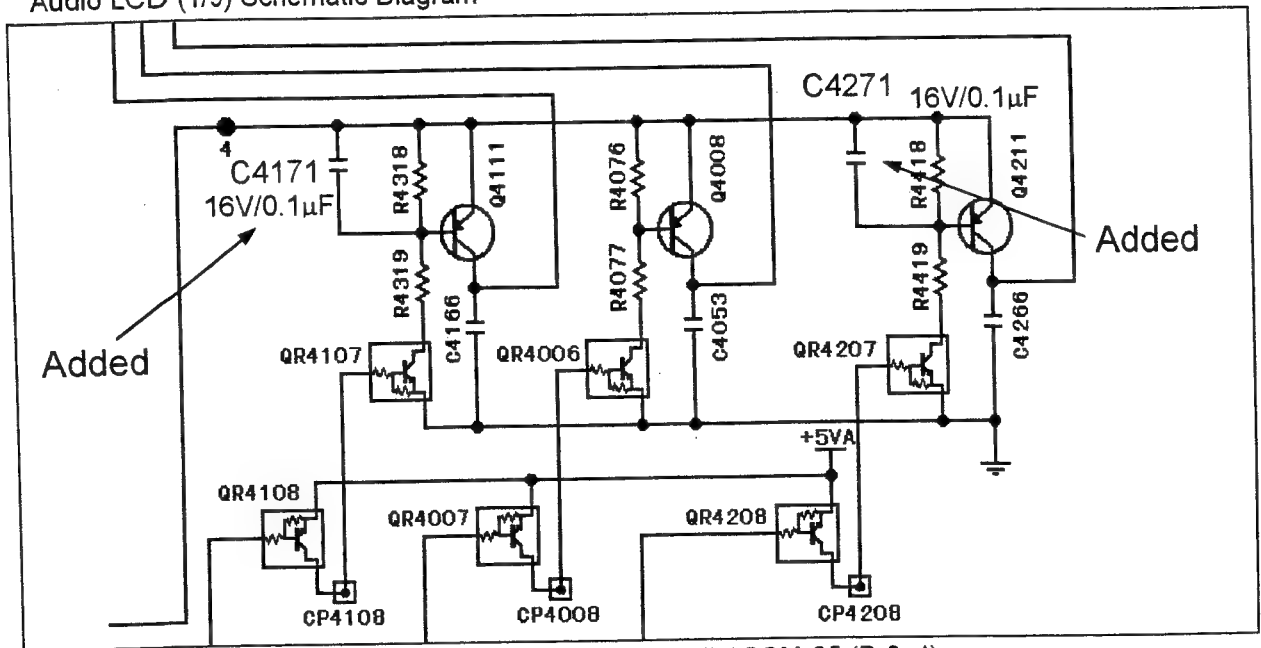

Fig. 1 Page SCM-76 (B-3-4) / SCM-85 (B-3-4)
- 1). Capacitor C4171 (16V/0.1 μ F) is put on the resistor R4318 and then soldered them on the foil side as shown in figures 1, 2 and 3.
- 2). Capacitor C4271 (16V/0.1 μ F) is put on the resistor R4418 and then soldered them on the foil side as shown in figures 1, 2 and 3.